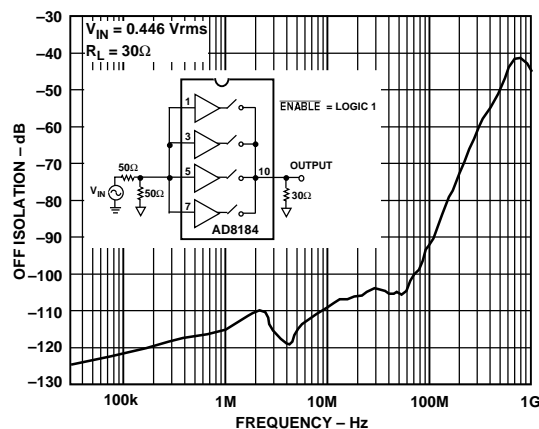

Figure 13. "OFF" Isolation vs. Frequency
- 7Multiplexer is disabled (i.e., ENABLE = logic 1) and all inputs are driven simultaneously with  $V_{IN} = 0.446$  V rms. Output is monitored at  $f = 5$  and 30 MHz.  $R_L = 30$   $\Omega$  to simulate  $R_{ON}$  of one enabled multiplexer within a system (see Figure 13). In this mode the output impedance is very high (typ 10 M $\Omega$ ), and the signal couples across the package; the load impedance determines the crosstalk.